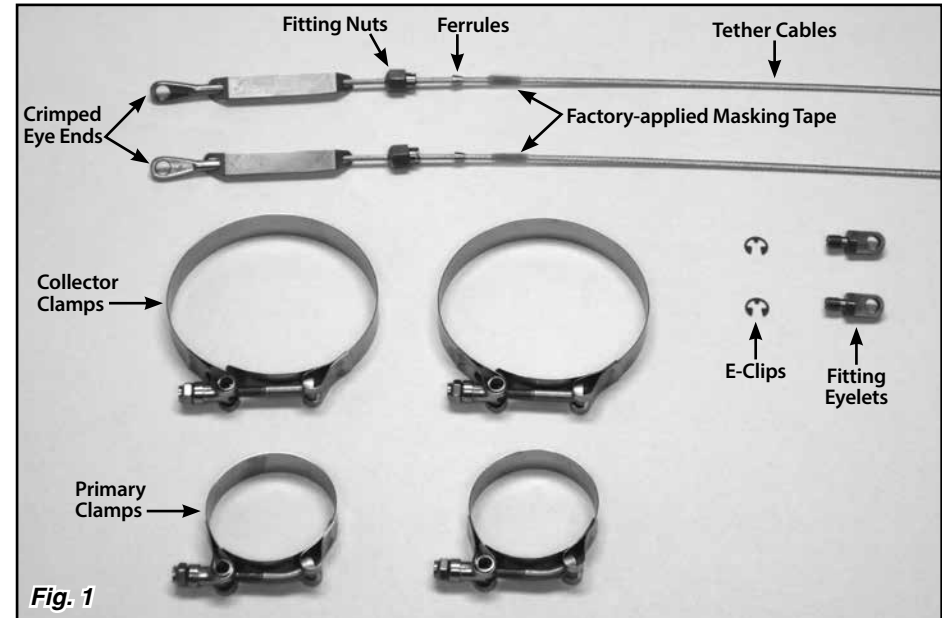
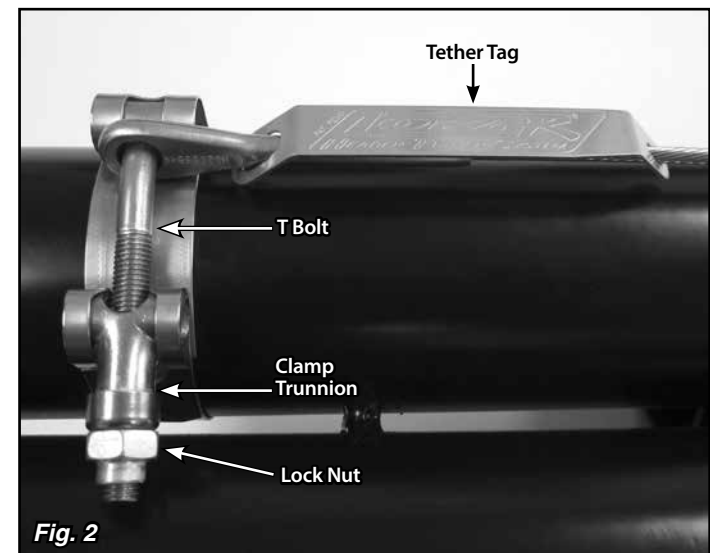

Fig. 1
Fig. 2
Refer to Fig. 1 and Fig. 2 for the component names.
Step 2: Place a primary clamp onto the most accessible header primary tube. Install the crimped eye end of the tether cable onto the T bolt, and then insert the T bolt into the clamp trunnion. Install the lock nut onto the T bolt, and temporarily snug the nut down, just enough to prevent the clamp from moving. **Fig. 2**